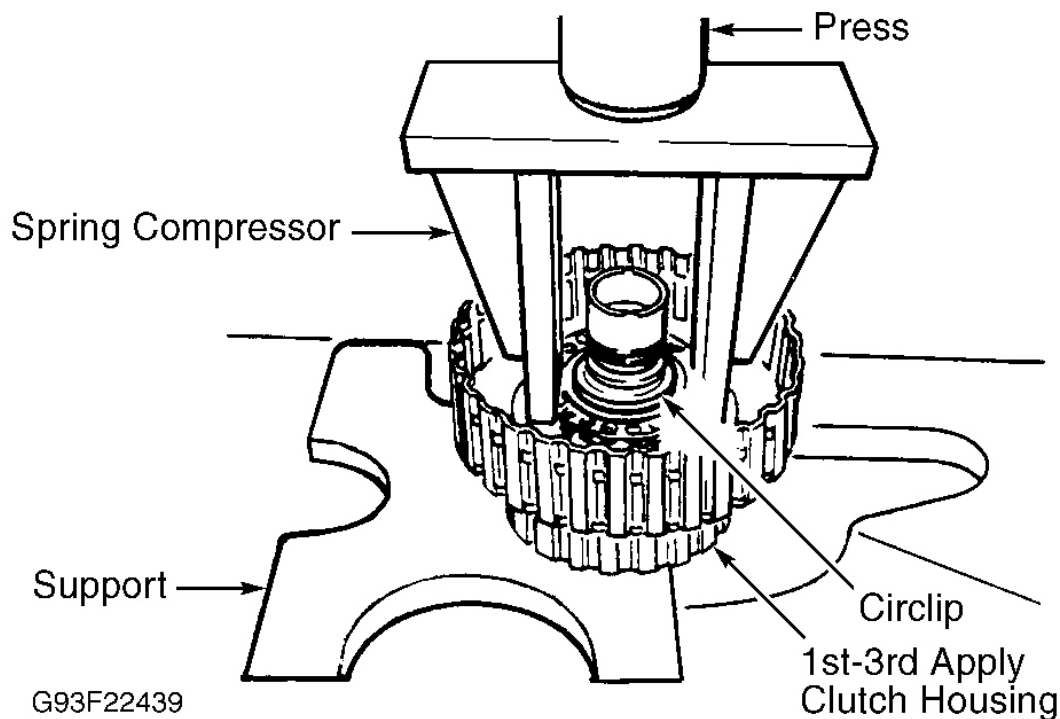
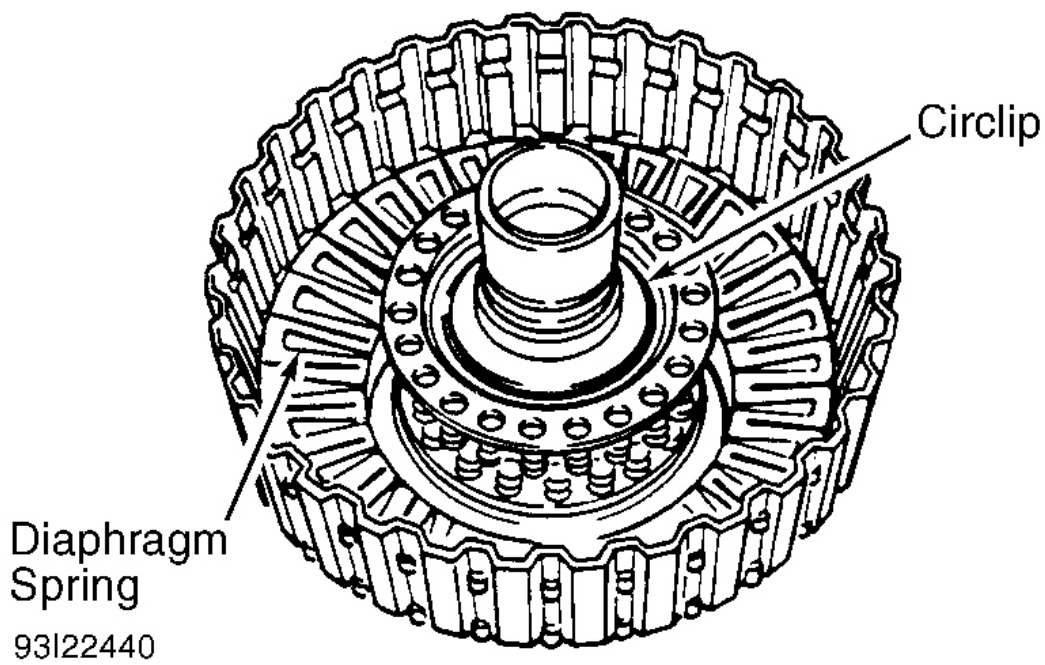

Fig. 44: Removing & Installing Spring Circlip
Fig. 45: Installing Diaphragm Spring & Circlip
1. Remove support ring. Mark circlip for installation reference, and remove circlip. Disassemble clutch plates. See **Fig. 43** . Remove diaphragm spring circlip. Compress spring support, and remove circlip. See **Fig. 44** . Remove spring plates and clutch piston.
4. On early 1993, install diaphragm spring with curved side facing piston. Install circlip. See **Fig. 45**. On all model years, install bottom thrust plate with smooth side facing clutch plate. Install one inner splined and one outer splined clutch plate into clutch housing. See **Fig. 44**.